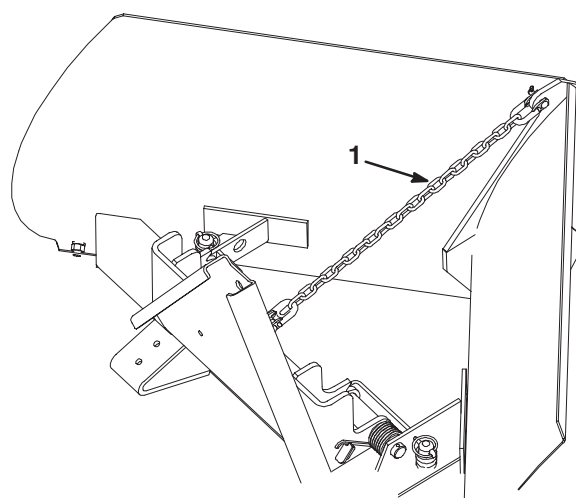

Figure 3
3. Secure the chain shackles to the V-plow mount and the V-plow with a clevis pin and a 1/8 x 3/4 inch cotter pin (Fig. 3).
4. Remove the stop bolt from the rear of the V-plow (Fig. 3).